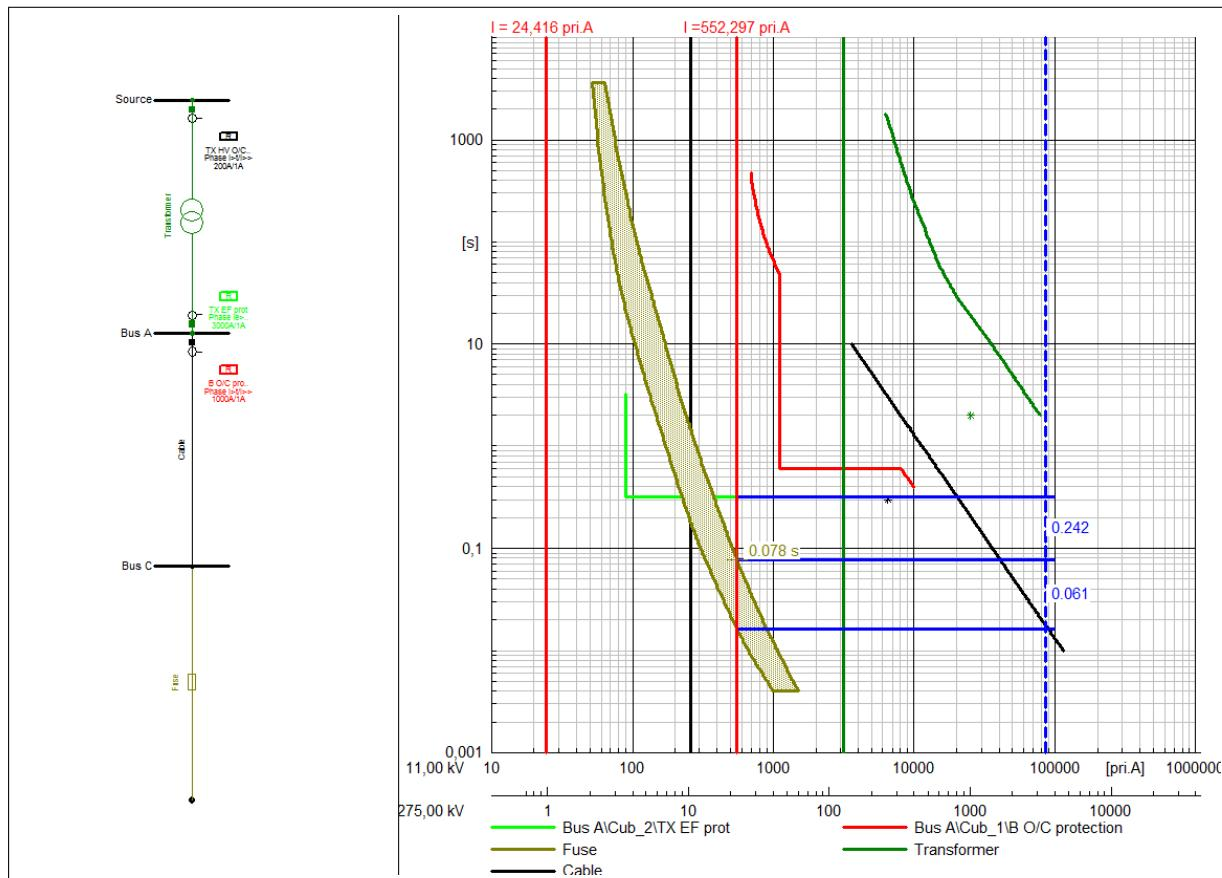

Figure 33.4.2: Time-overcurrent plot with grading margins displayed in blue
7. Press **OK** to show the grading margins on the plot. An example with the grading margins shown using the default blue coloured curve is shown in Figure 33.4.2
**Characteristic.** This option defines whether the displayed curves also show the curves including the additional circuit breaker delays. The default option *All* shows both the minimum clearing time (not including the breaker delay) and the total clearing time (including the breaker delay). It is possible also to display just one of these curves. An example is highlighted in Figure 33.4.2. Note that the breaker delay time is specified in the basic data of the switch type *TypSwitch*.